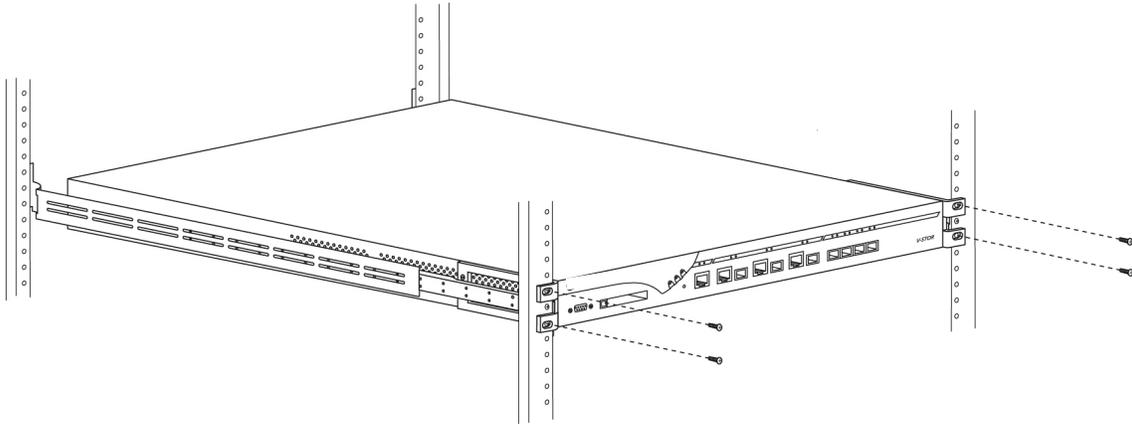

Figure 7. Attaching i series 400i to Rack
- Using screws that you supply, attach the i series 400i to the rack as shown in Figure 7.